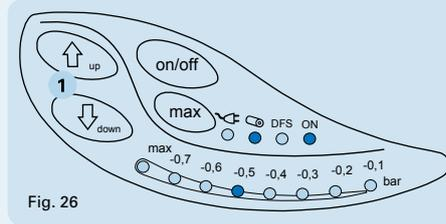

Fig. 26
2. Set your desired vacuum via the arrow keys (fig. 26(1)). When the device is later switched off, the last set value is saved.